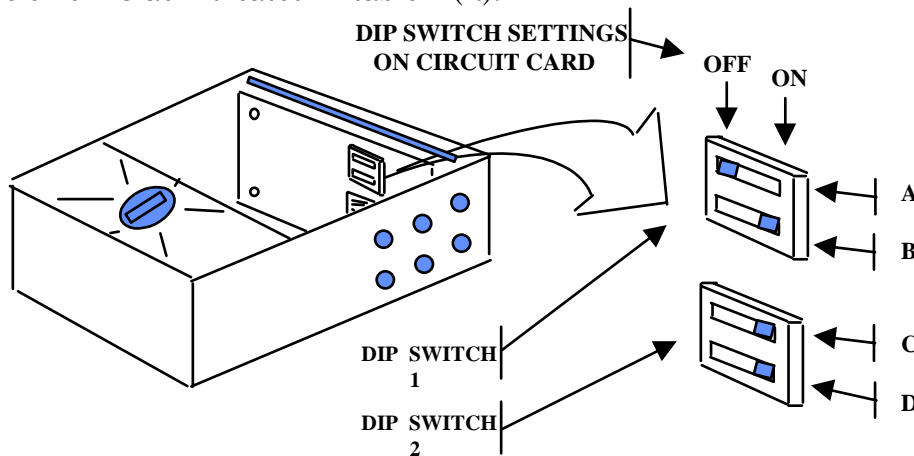

Figure 9. Example of Dip Switch correction setting for -0.025 to -0.075 °C.
Ensure Dip Switch 1, **A** and **B** are set to on. Ensure Dip Switch 2, **C** and **D** are set to on. Refer to figure 9 for example of settings.
- (d) Refer to calculated temperature error for BAR target recorded on BAR Target Temperature Worksheet or for MRT target recorded on MRT Target Temperature Worksheet and set DIP SWITCH 1 and DIP SWITCH 2 (example in figure 9) to indicate temperature error °C as indicated in table 4 (R).